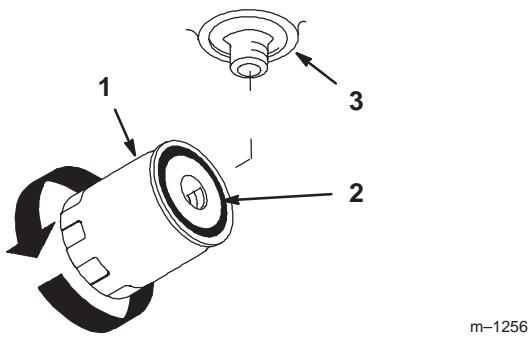

Figure 56
4. Apply a thin coat hydro fluid to the rubber gasket on the replacement filter (Fig. 56).
6. Fill the hydraulic tank with hydraulic fluid until the fluid overflows the filter and then turn the oil filter clockwise until the rubber gasket contacts the filter adapter, then tighten the filter an additional 1/2 turn (Fig. 56).